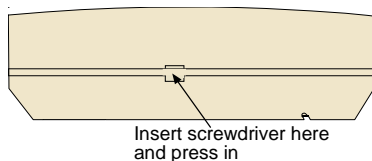

Figure 1 - Removing the Outer Cover
- Remove the Outer Cover of the Receiver (see Figure 1) and set it aside.
- If not already done, remove the Outer Cover from the Receiver (see Figure 1) and set it aside.